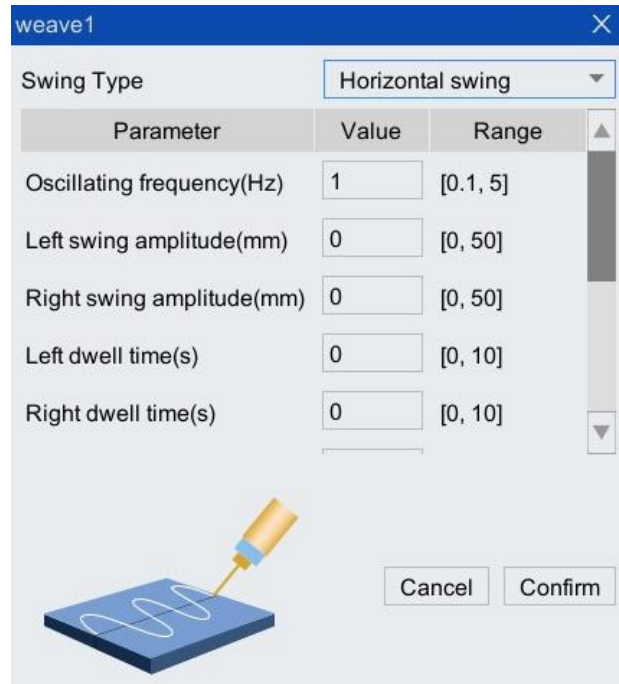

Figure 5-28 "Weave" variable configuration interface
Step2.Click the <...> button behind the variable weave to open the "weave" variable configuration interface as shown in Figure 5-28. Modify the specific parameter values according to actual needs. After the modification is completed, click the <Yes> button.